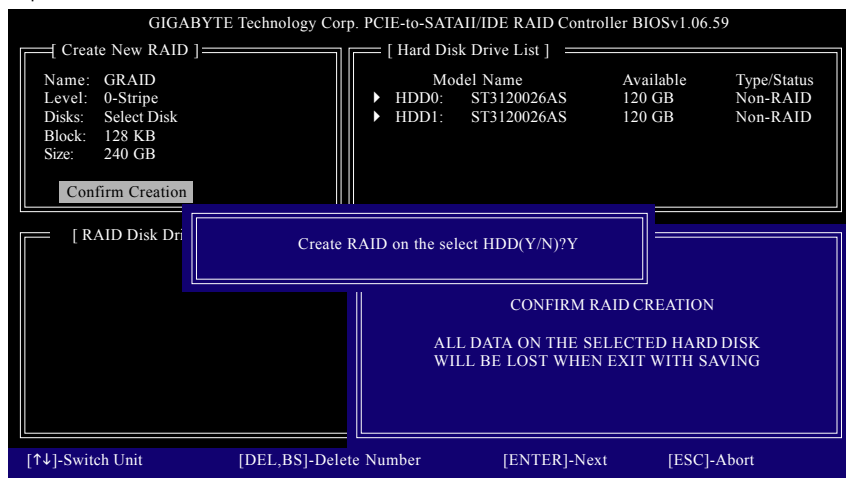

Figure 7
- 6. Confirm Creation:** After all of the items above are configured, the selection bar automatically jumps to the **Confirm Creation** item. Press <Enter>. When prompted to confirm your selection (Figure 7), press <Y> to confirm or <N> to abort.